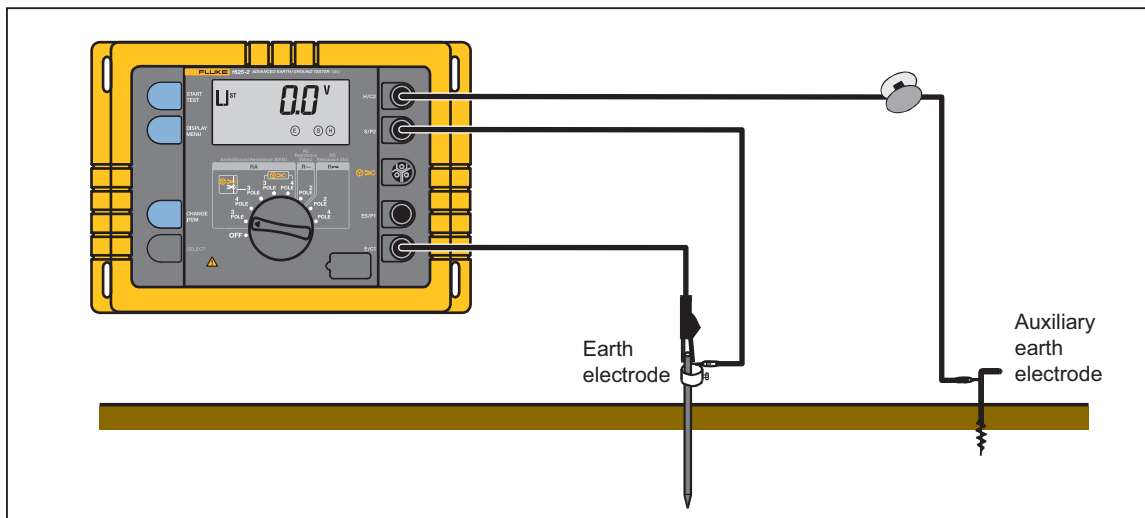

Figure 10. Compensation of Earth Electrode Connecting Lead
2. Wire instrument as shown in Figure 10.